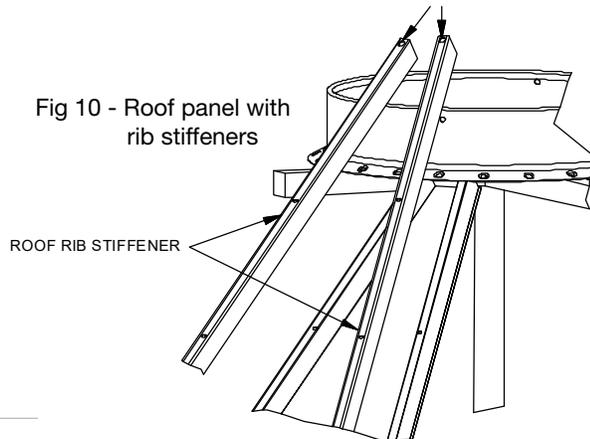

Fig 10 - Roof panel with rib stiffeners
- b. Make sure to install the roof rib stiffeners where the roof ladder will be located by capping the rib with the rib stiffener. Ensure that the slotted end of the rib cap is installed at the peak of the roof. See Figure 10.